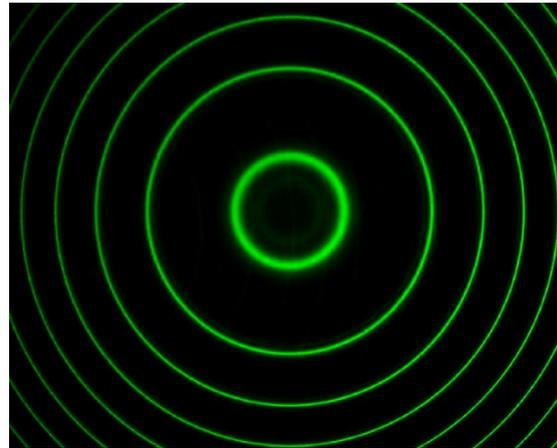

Figure 3: B=0 Pattern
where θ_k is the angle to the k_{th} ring in the pattern (see Figure 3, $k=0$ for the innermost ring. Here the negative sign must be chosen for the $(n - k)$ term since as θ increases, the left of Equation 9 decreases. Thus, the right hand side must decrease as k increases. Note that the Fabry-Perot interferometer can measure much smaller changes in λ because λ is multiplied by a large n resulting in a much larger change in θ . This increases its resolution by roughly $2d/\lambda \sim 10^4$.
We do not know the effective focal length f , but can use the $B = 0$ pattern shown in Figure 3 to evaluate it. For the $k = 0$ ring, Equation 10 is
16. Look through the interferometer (perfectly safe because only the 546.1 nm light gets through the interference filter...no ultraviolet). You should see a green bulls-eye (like Figure 3).